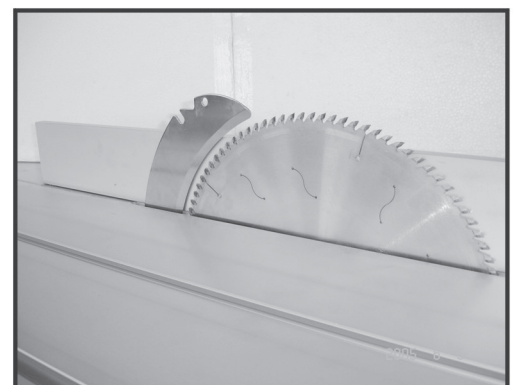

Fig. 27
3. Move the rip fence against the main blade (or scoring blade) (Fig. 27)
2. Move the rip fence against the main blade (Fig. 27)